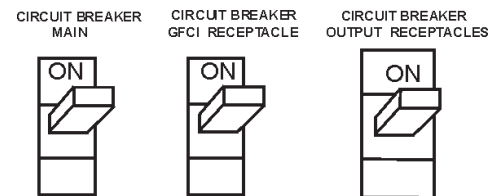

Figure 50. Main and GFCI Circuit Breakers
15. Turn the MAIN, GFCI and LOAD circuit breakers to their ON position (Figure 50).